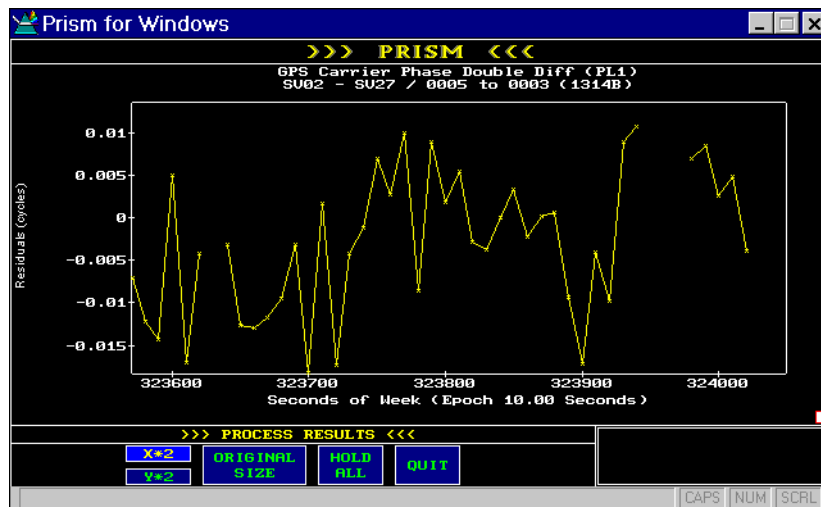

Figure 8.30: Plot Display
3. When you release the mouse button, the boxed area expands to fill the plot display, as shown in Figure 8.30.